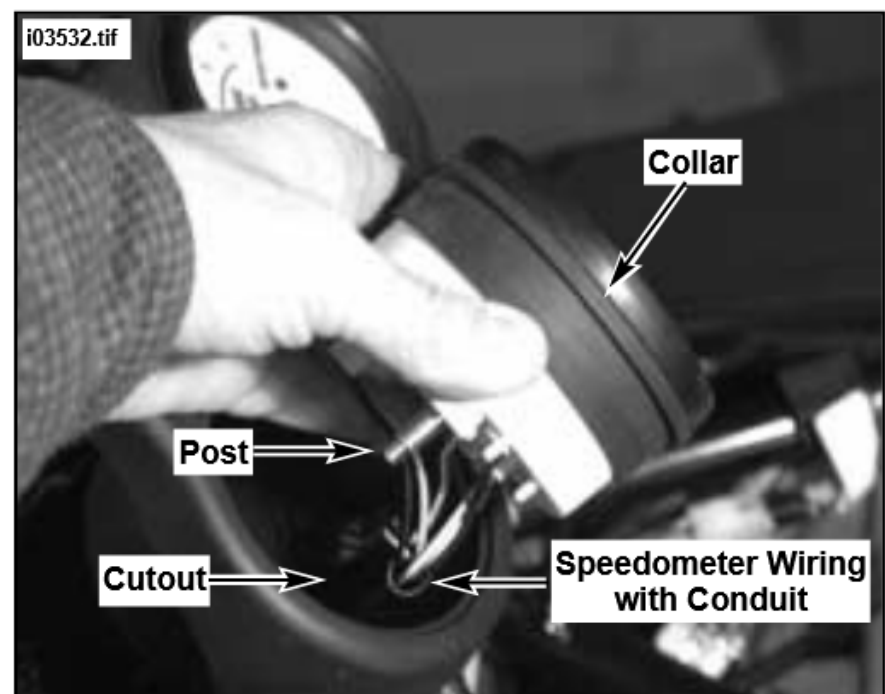

Figure 8. Install Speedometer
- a. See Figure 8. Obtain new cushion (Part Number Y0604.01A3) from kit. Slide the cushion onto the gauge with the collar (ridged portion of cushion) facing the top of the gauge.